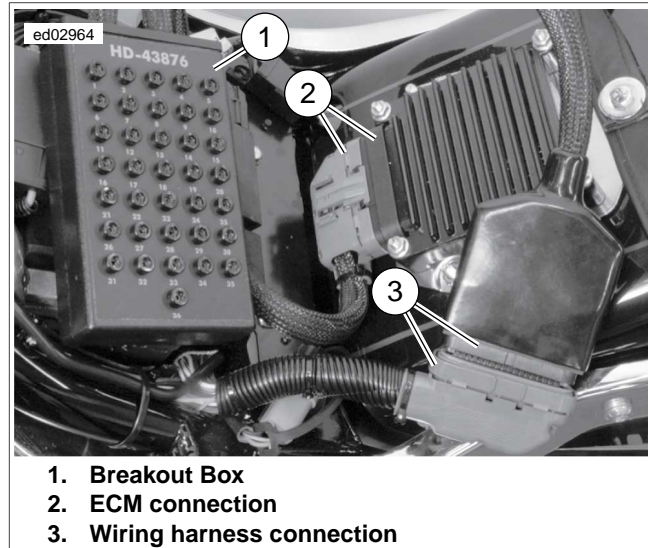
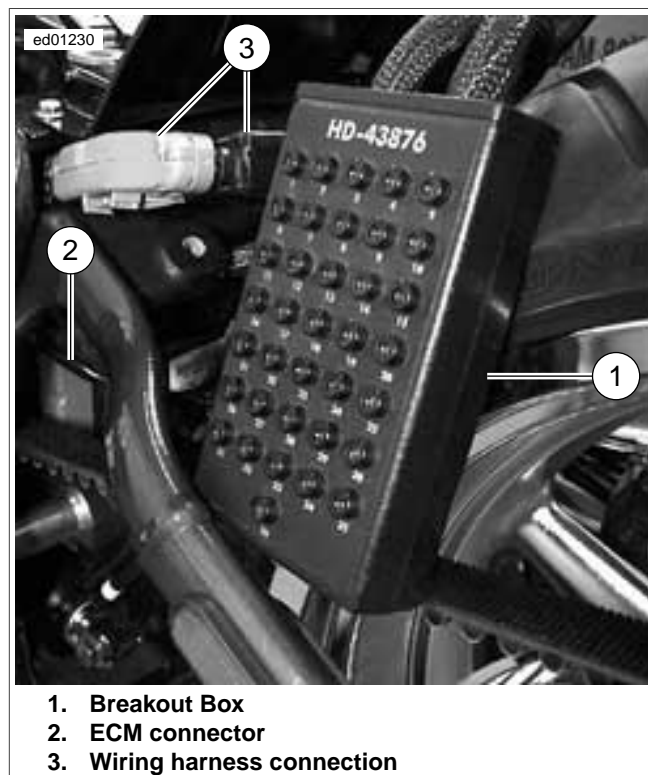

Figure 4-10. Installed Breakout Box (Softail)
Figure 4-11. Installed Breakout Box (FXCWC)
4. See Figure 4-10 or Figure 4-11. Attach Breakout Box (1) to connector.
1. See Figure 4-10 or Figure 4-11. Depress latch on ECM connection.